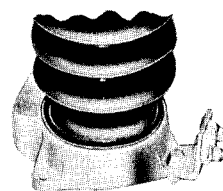

Fig. 4. Ground Terminal
4. Ground Terminal Assembly (Fig. 4). For 3-120 KV ratings, it is supplied with each arrester complete with hardware.